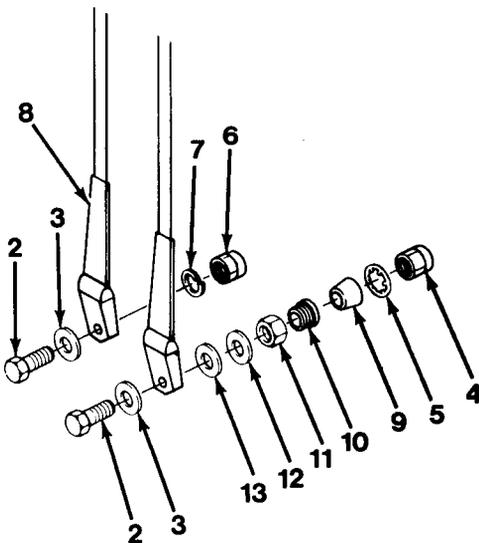
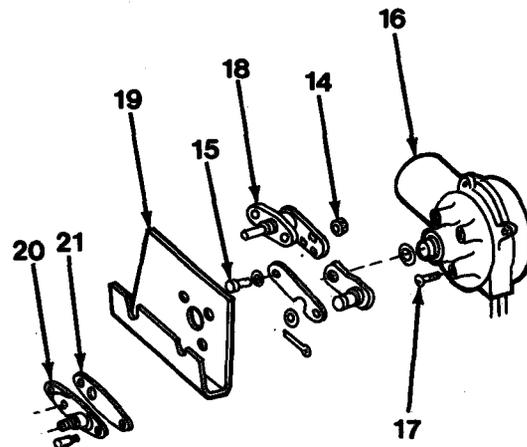

Figure 17-2
Figure 17-3
3. Remove two capscrews (2) and lockwashers (3, Figure 17-2).
4. Remove cap nut (4) and internal tooth star washer (5).
5. Remove cap nut (6) and washer (7).
6. Remove wiper arm (8), cone (9) and rubber boot (10).
7. Remove nut (11) and washers (12) and (13).
8. Remove nut (14) connecting linkage to wiper motor (16, Figure 17-3).
9. Using an offset screwdriver, remove three screws with external tooth washers (15) and wiper motor (16).
10. Remove two screws with external tooth washers (17), wiper linkage (18), motor bracket (19), external bracket (20) and gasket (21). Discard gasket (21).
1. Install wiper linkage (18) in motor bracket (19) and secure with two screws with external tooth washers (17, Figure 17-3).
2. Install new gasket (21), external bracket (20, Figure 17-3), two capscrews (2) and lock-washers (3, Figure 17-2).
3. Install washers (13) and (12) and nut (11).
4. Install nut (14) connecting linkage to wiper motor (16, Figure 17-3)
5. Install three screws with external tooth washers (15).